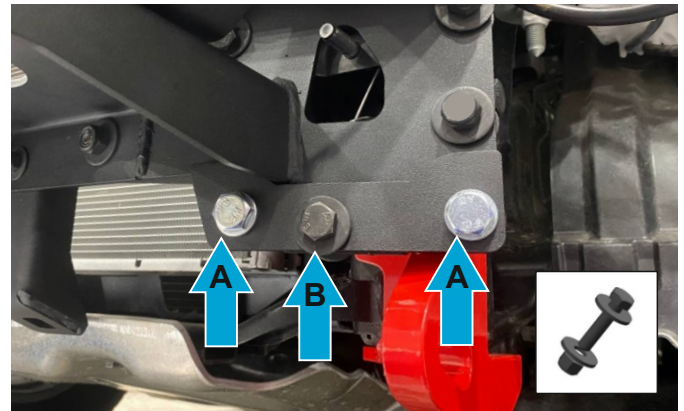

Fig.44
41. Install frame brackets (item 37) as shown in Fig. 44.